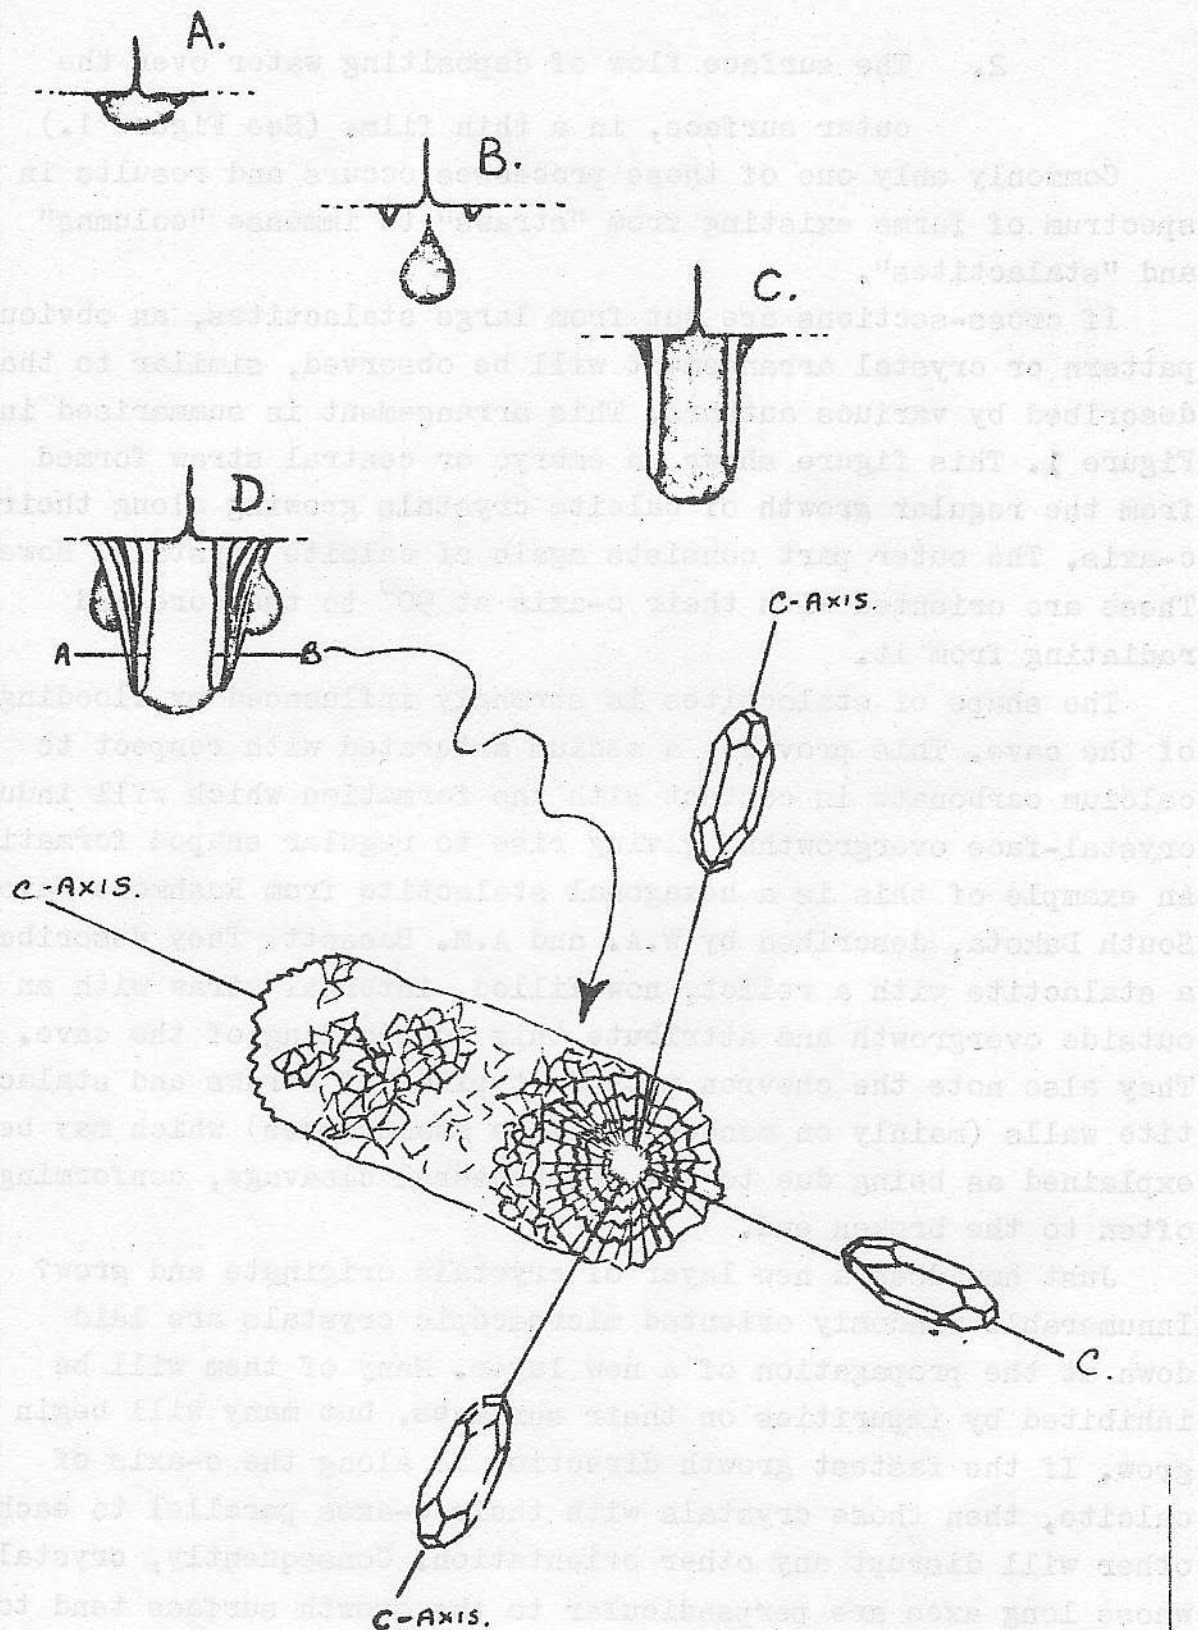

Fig.1
2. The surface flow of depositing water over the outer surface, in a thin film. (See Figure 1.)
If cross-sections are cut from large stalactites, an obvious pattern or crystal arrangement will be observed, similar to that described by various authors. This arrangement is summarised in Figure 1. This figure shows an embryo or central straw formed from the regular growth of calcite crystals growing along their c-axis. The outer part consists again of calcite crystals. However these are oriented with their c-axis at  $90^{\circ}$  to the core and radiating from it.